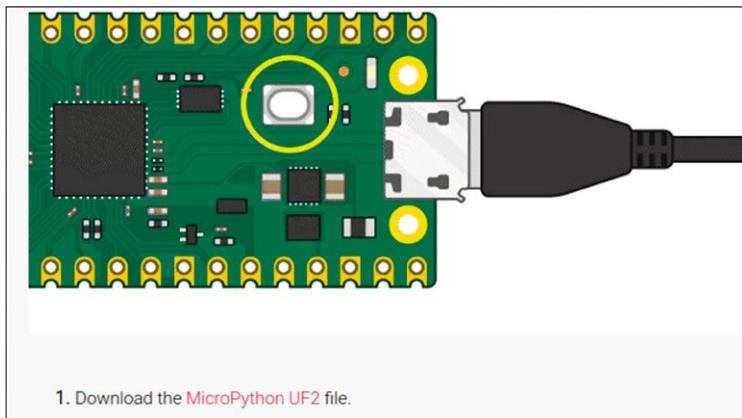
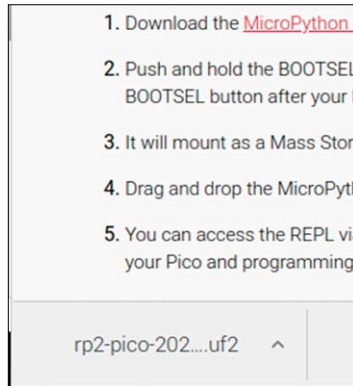

Figure 2.4: Download UF2 file.
Figure 2.5: Downloaded message.
- Scroll down and click on the **MicroPython** tab and then click **Download UF2 file** to download the **MicroPython** firmware (Figure 2.4). You should see the downloaded file message at the bottom of the screen (Figure 2.5).